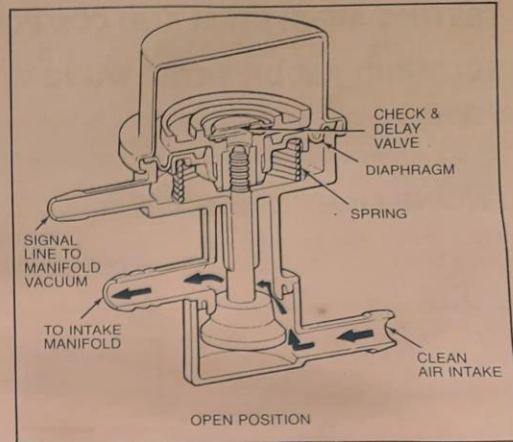

Figure 5-5. Deceleration Valve Cutaway
The valve ports (Fig. 5-5) are connected to the air cleaner and to the intake manifold. The diaphragm port is connected to manifold vacuum.
- During deceleration, manifold vacuum becomes strong. The diaphragm is pulled down and overcomes spring force. The valve opens (as shown in Fig. 5-5) and bleeds air into the intake manifold.